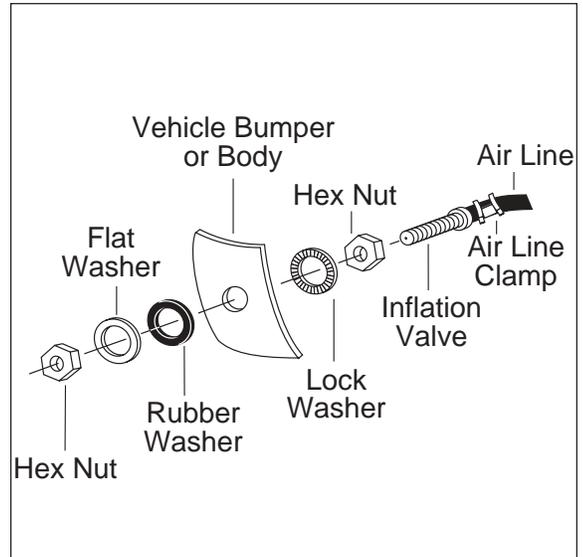

Figure 7
- Drill a  $\frac{5}{16}$ " hole for inflation valve and mount as in illustration (Figure 7). Rubber washer is for outside weather seal.
- f. Drill  $\frac{5}{16}$ " hole for inflating valves and mount as illustrated. Rubber washer is for outside weather seal (Figure 7).